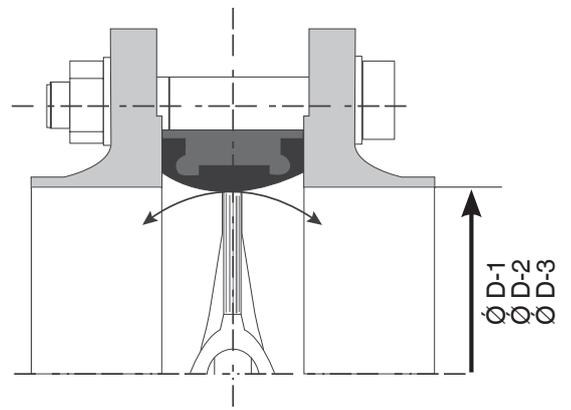

Figure 1: Correct installation
- Use butterfly valve with suitable flange diameter (see chapter 10.1, figure 1).